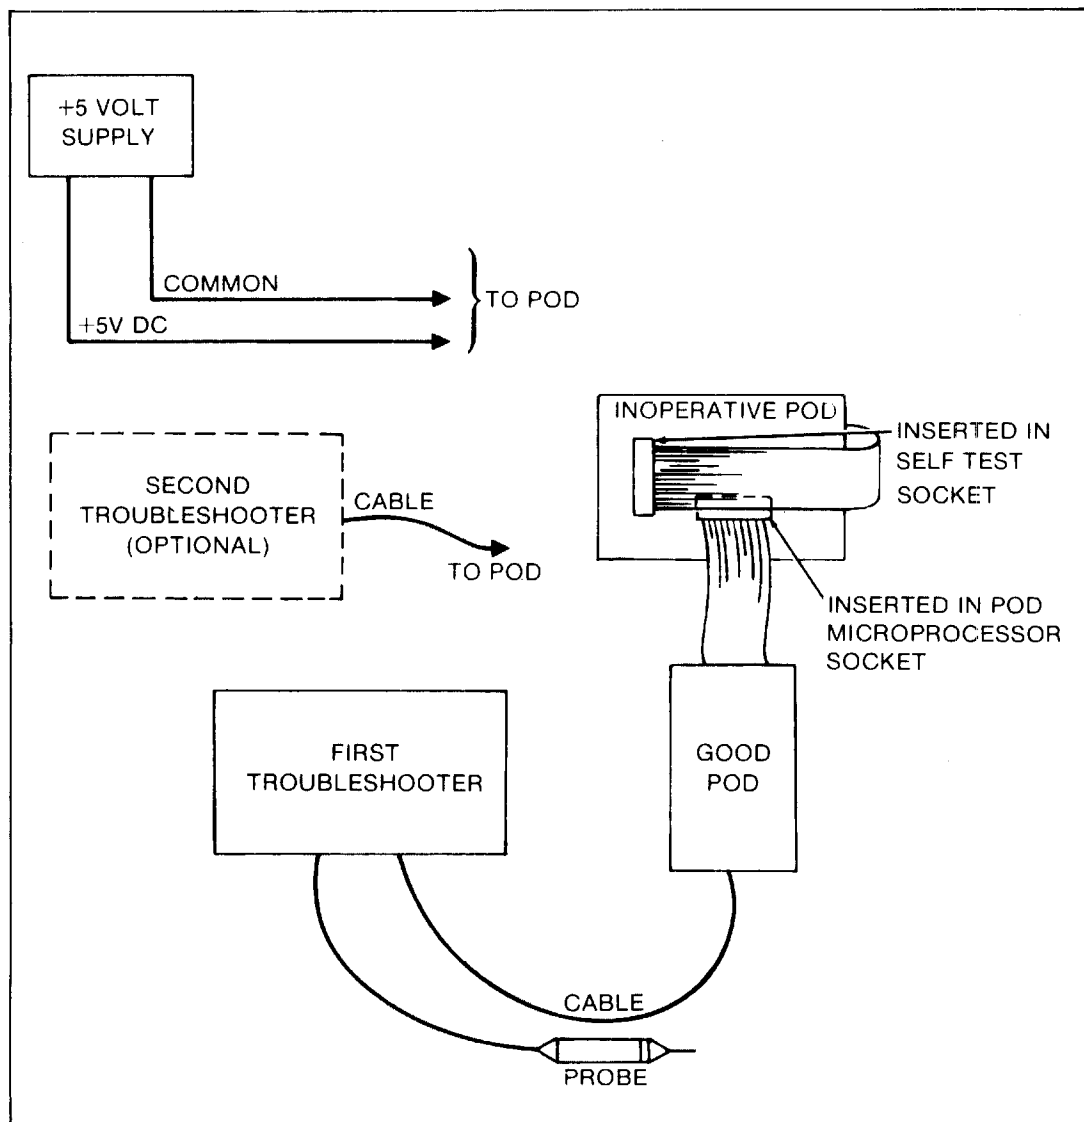

Figure 6-2. Troubleshooting an Inoperative Pod
4. If a second Troubleshooter is available, connect the Pod cable plug from the inoperative Pod to the second Troubleshooter to supply the inoperative Pod with power. If a second Troubleshooter is not available, connect a +5V dc (2 amp) power supply to the Pod as shown in Figure 6-2. An easy place to make the power connections is at the connector that usually connects the cable to the Troubleshooter.
7. Connect the Troubleshooter to the good Pod as shown in Figure 6-2. Apply power to the Troubleshooter, then install the ribbon cable plug of the good Pod into the microprocessor socket of the inoperative Pod.